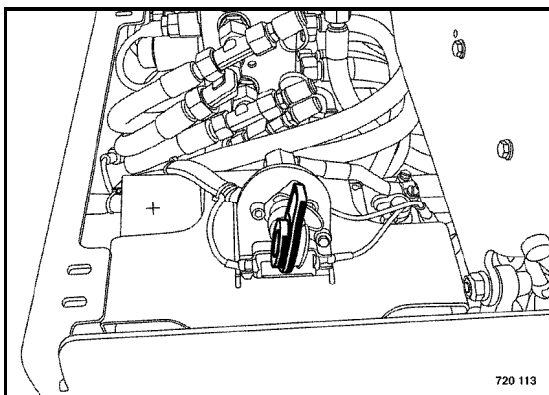

Fig. 71
- Switch off and pull out main battery switch 1 (Fig. 71).
*If the power pack of the remote control is to be recharged via the remote control cable, the main battery switch (Fig. 71) must be switched on.*